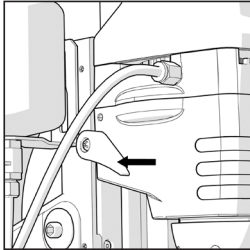

Fig. 13
- Lock the Cutting Head onto the dovetail slide in the required position. The locking lever is located on the left hand (LH) lower gearbox casing. (Fig. 13)